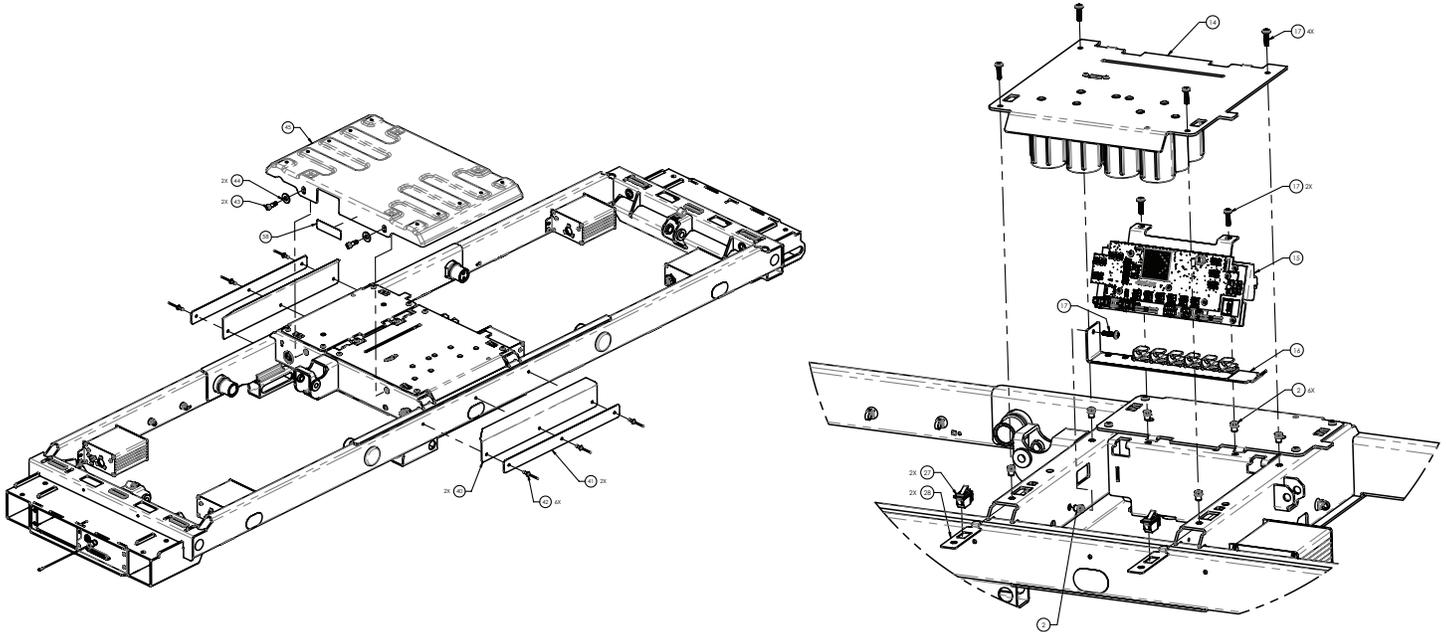

Figure 8 – Battery replacement
6. Using a 5/32" hex driver, remove and save the two screws (43) and flat washers (44) that secure the motion interrupt pan (45) to the litter frame. Remove and save the motion interrupt pan (45) (Figure 8).
7. Using a #2 Phillips screwdriver, remove and save the two screws (17) from the battery mounting bracket closest to the center of the bed (Figure 8).
8. Using a #2 Phillips screwdriver while supporting the battery mounting bracket with one hand, remove and save the two screws (17) from the battery mounting bracket closest to the outside of the bed (Figure 8).
13. Lift up to remove and discard the battery mounting plate assembly (14) from the litter frame.